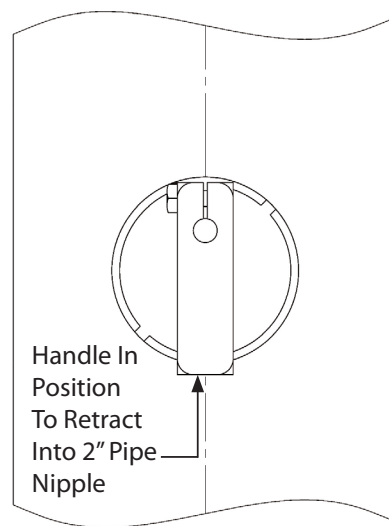

Figure 3: Proper Handle Position For Removal
1. Push the rod into the pipe so that it is clear of any pipe wall. Then rotate the handle clockwise until it is lined up over the top of the caliper assembly. See *Figure 3*.